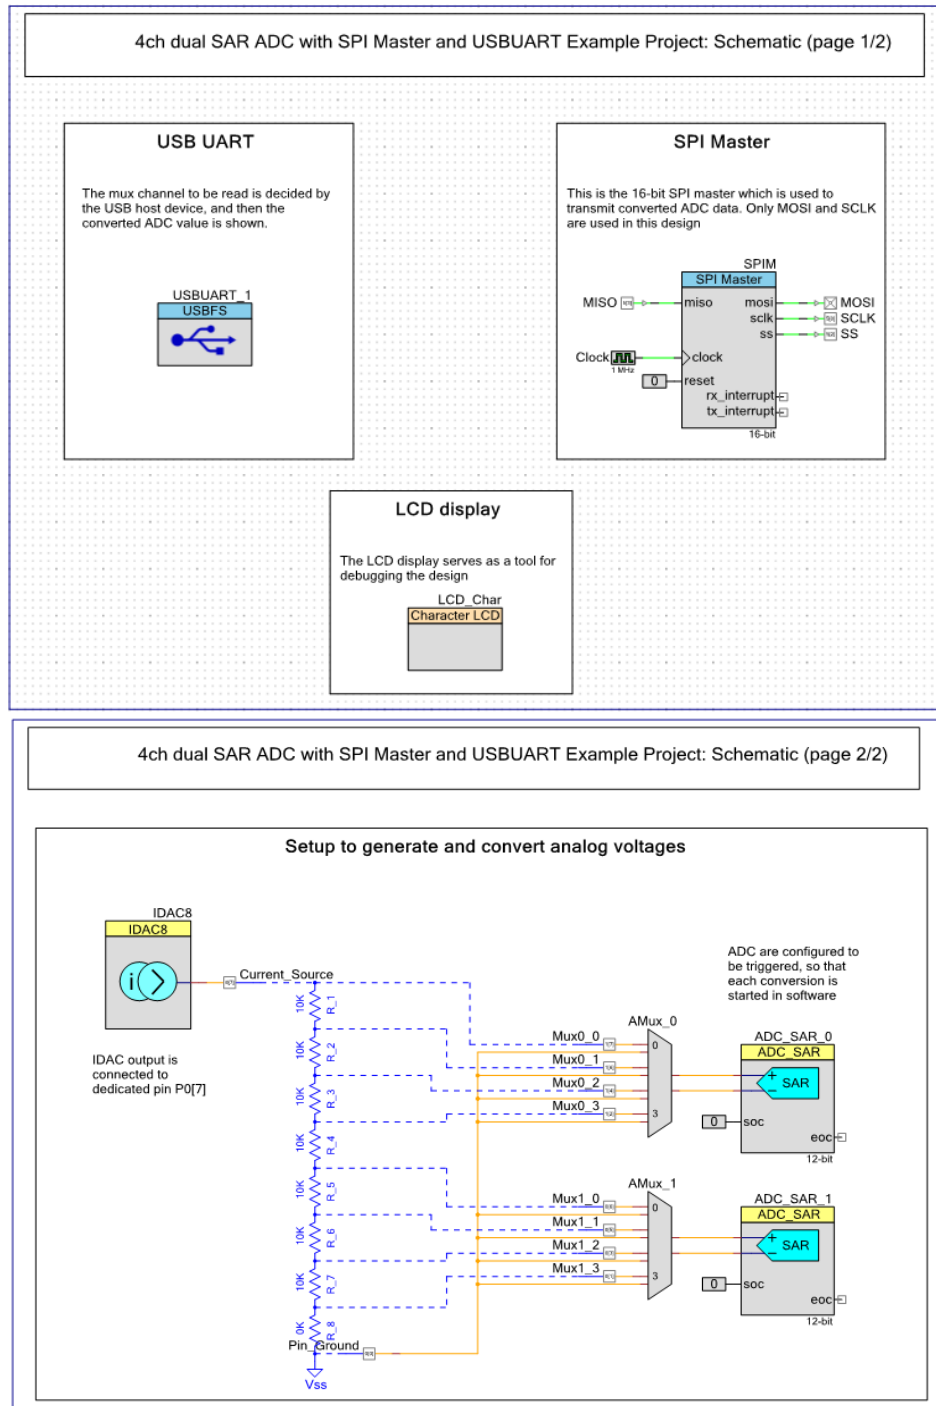

Figure 3. Main project top design schematic
3. In order to generate different voltages to test the Example Project, set up a resistor ladder on the breadboard available on the PSoC DVK (See Figure 1 and Figure 3). Use 7 resistances of 10k ohm in series, followed by a 0 ohm resistor or jumper wire to ground. Ensure that the LCD is connected to the LCD header P18 on both boards.
The top design schematic is shown in Figure 3.